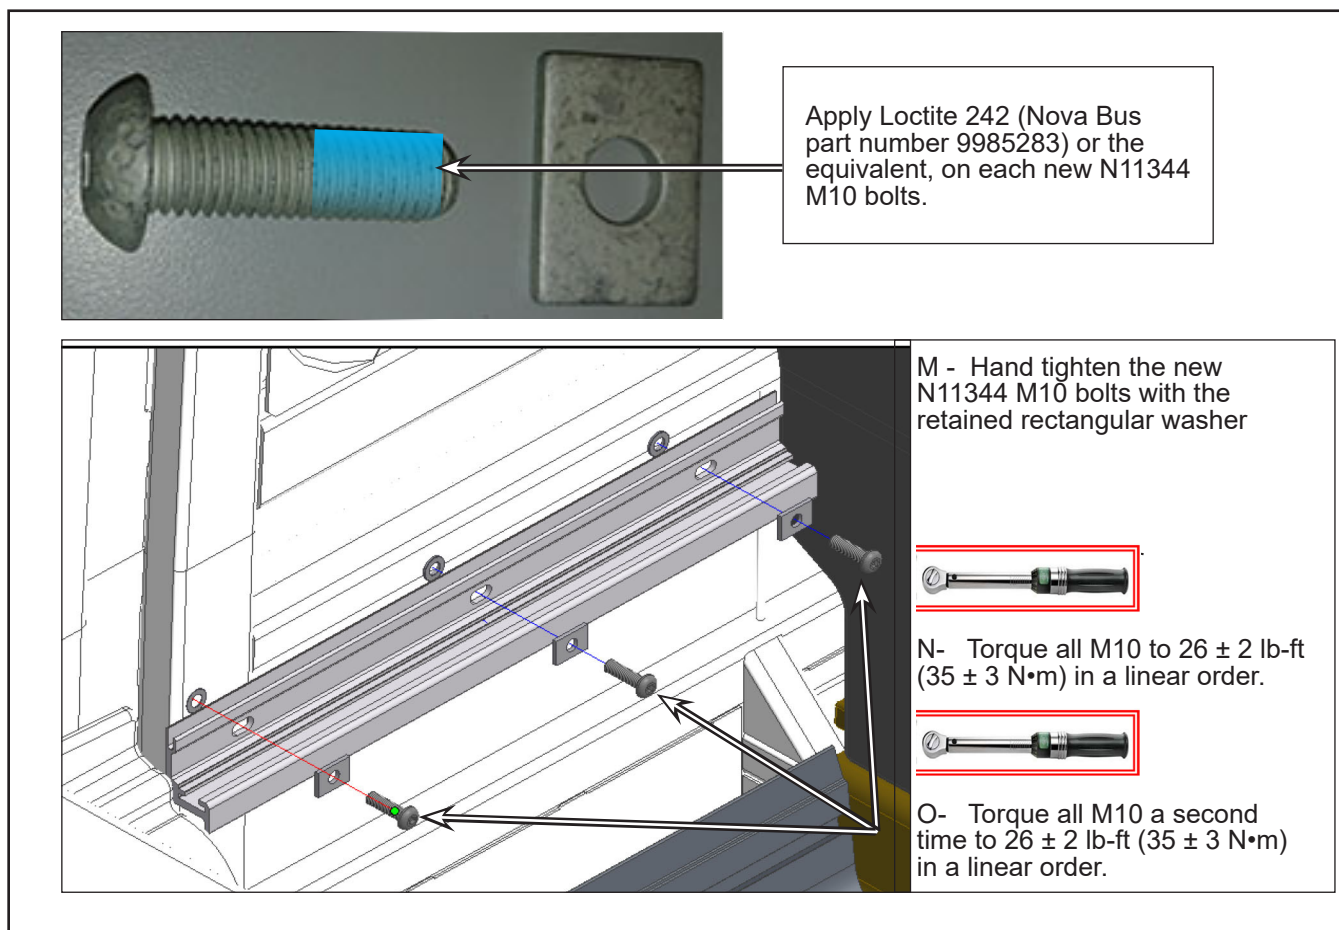

Figure 13 - Preparation and Torque to Apply on New N11344 M10 Bolts
- l. Apply Loctite 242 (Nova Bus part number 9985283) or the equivalent, to each new N11344 M10 bolts. See Figure 13.
- m. To install the new upper anchor rail in position, hand tighten the new N11344 M10 bolts with the retained rectangular washers. See Figure 13.
- n. With a torque wrench, apply the torque indicated in Figure 13 to all upper anchor rail M10 bolts. Follow a linear order from back to front to torque the M10 bolts.
- o. Apply the torque a second time to each new N11344 M10 bolts affixing the upper anchor rail. See Figure 13 for torque value.